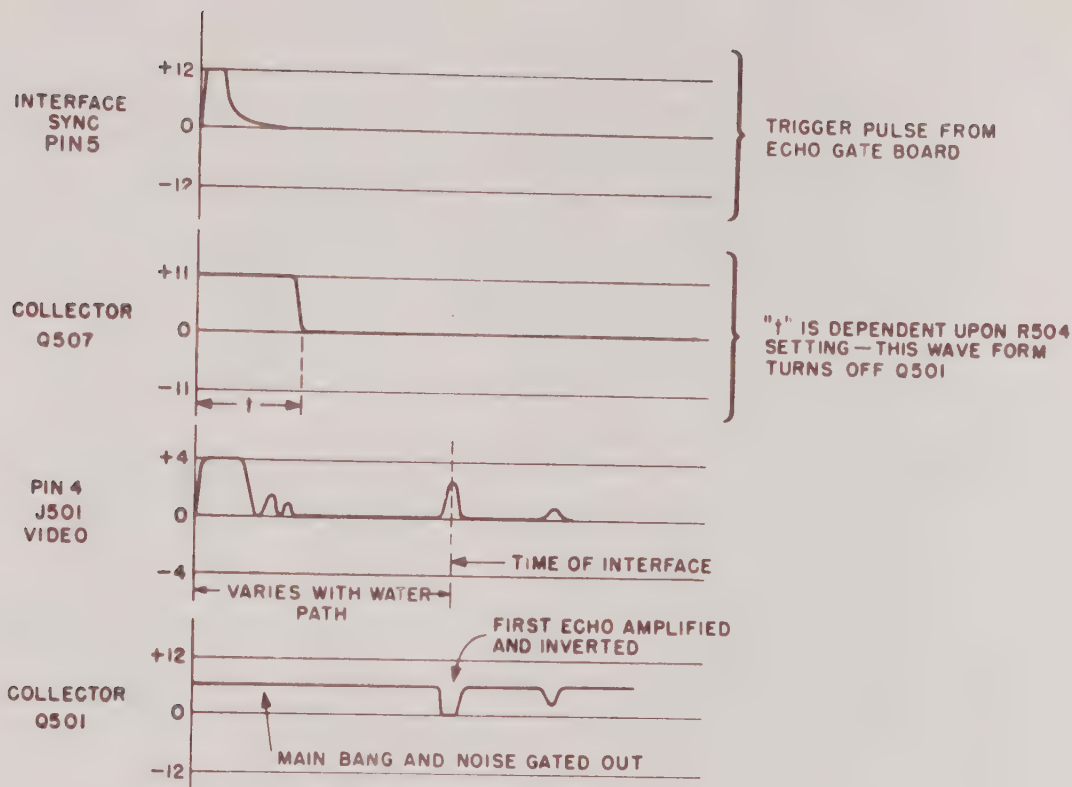

Figure 9-13
4. INTERFACE OR FIRST ECHO SYNC 50C387 (See Figure 9-13)
5. ALARM BOARD 50C386 (See figure 9-13)